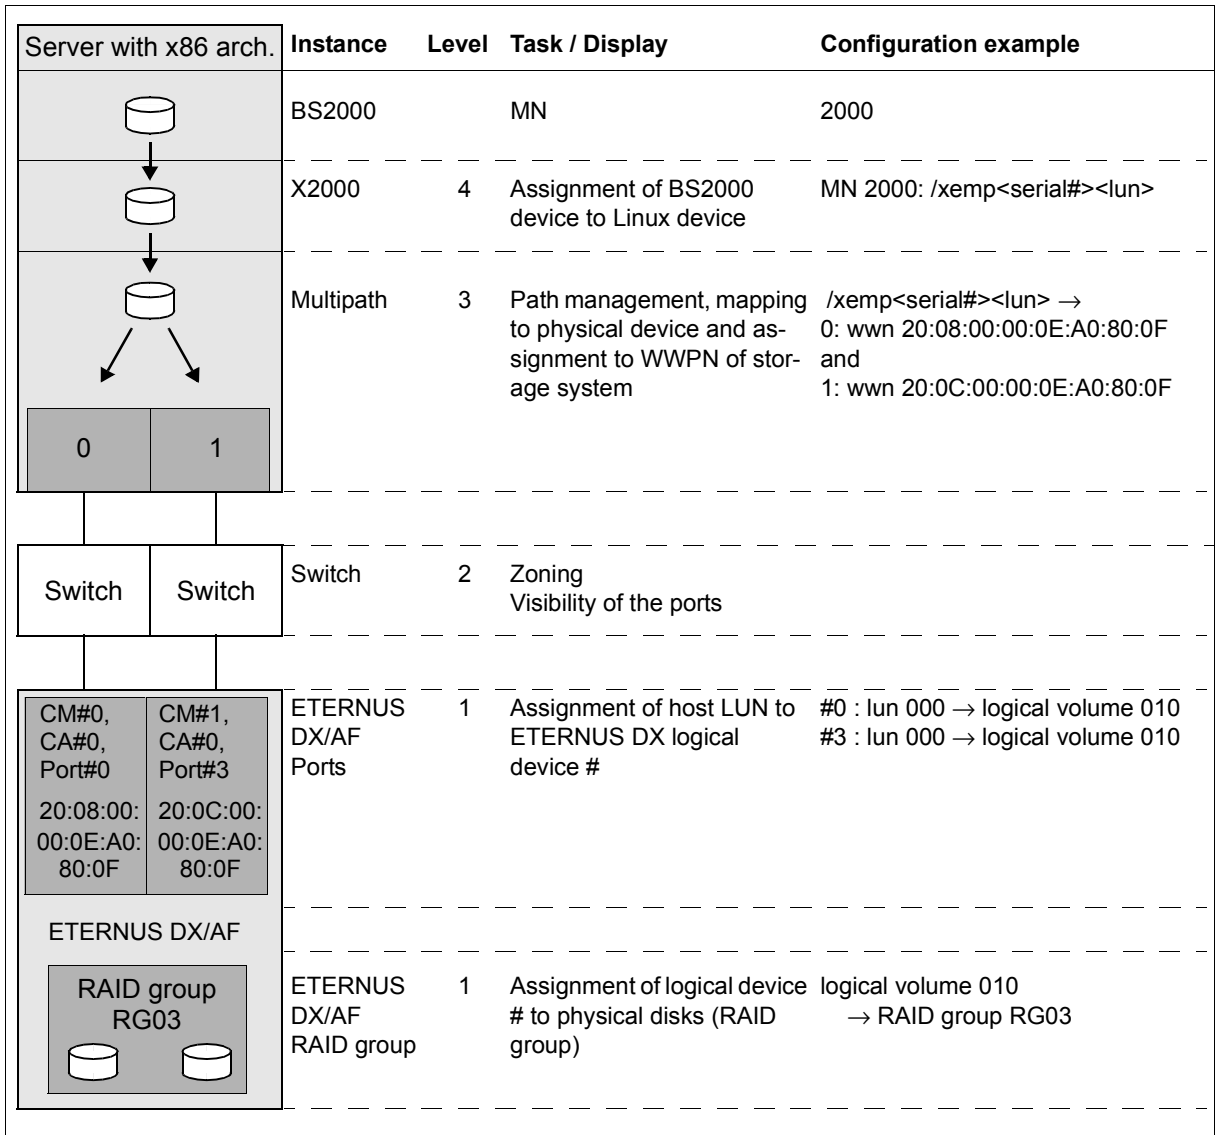

Figure 5: Configuration of the units on x86 servers for ETERNUS DX/AF
BS2000 volumes which are connected to an x86 server are mapped to the configured Linux volumes. These are operated using one or more Fibre Channel HBAs (Host Bus Adapters). The Linux volumes are connected to the storage system directly or via a Fibre Channel switch. BS2000 volumes connected to x86 servers via Fibre Channel must be configured on storage system (1), switch (2) and X2000 (4) levels (the level numbers as used in figure 5 on page 38 are in parentheses). No special configuration is necessary at Linux level (3).